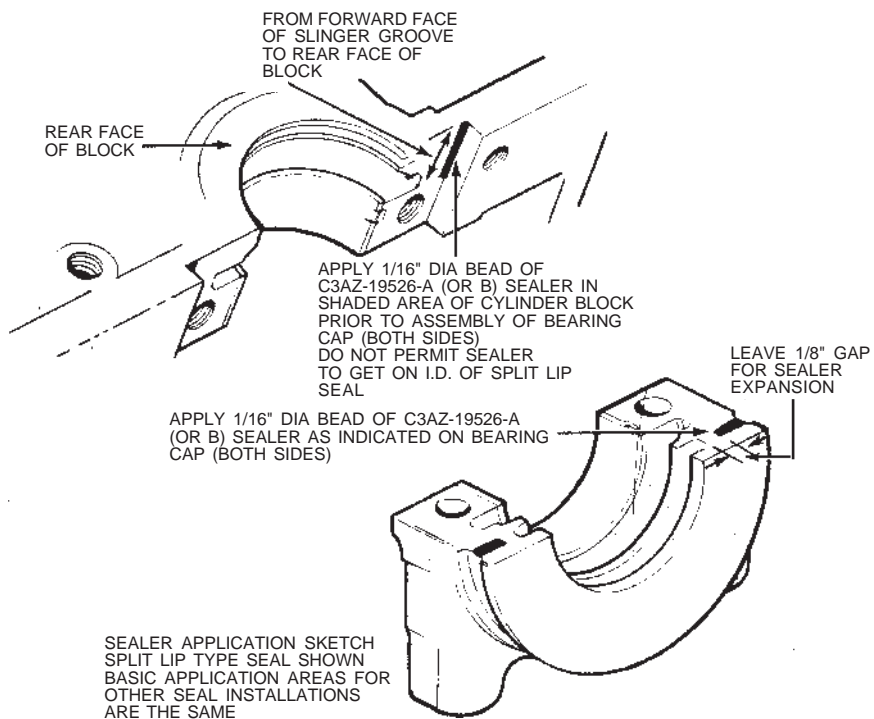

Fig. 25 Applying RTV Sealer To Main Bearing Cop and Block
1. Carefully clean the seal grooves in the cap and block with a brush and solvent such as lacquer thinner, chloroethane or tri-chlor-ethylene. Also clean the area where sealer is later to be applied (Fig. 25). Dry the area thoroughly, so no solvent touches the seal.
Be sure no rubber has been shaved from the outside diameter of the seal by the bottom edge of the groove. Do not allow oil to get on the sealer area (Fig. 25).
6. Apply an even 1/16 inch bead of RTV silicone rubber sealer to the areas shown in Fig. 25, following the procedure given in the illustration.